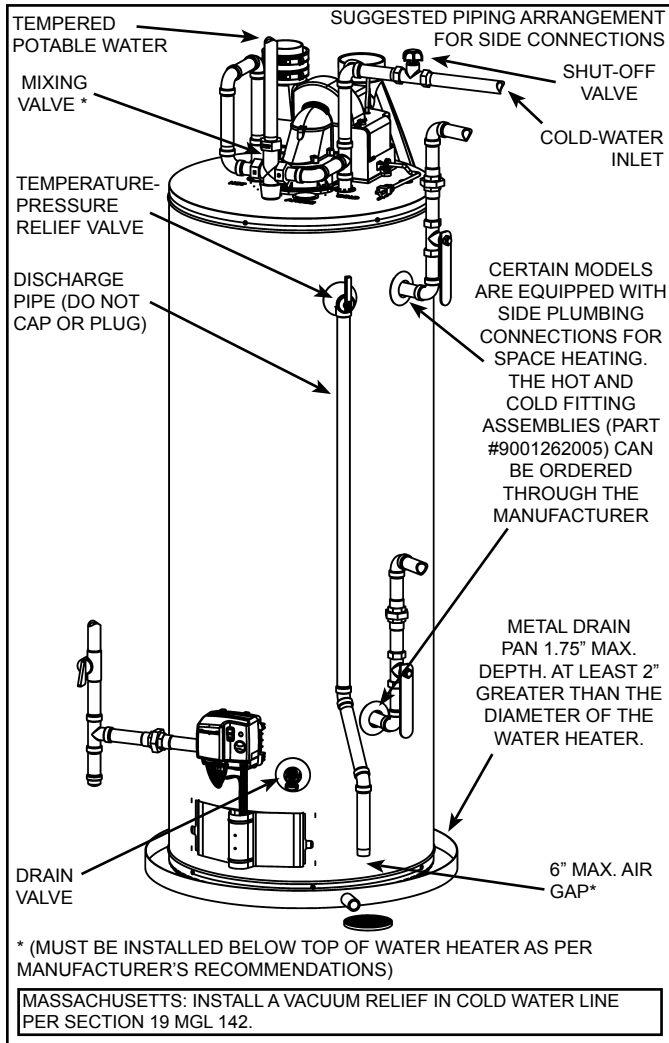
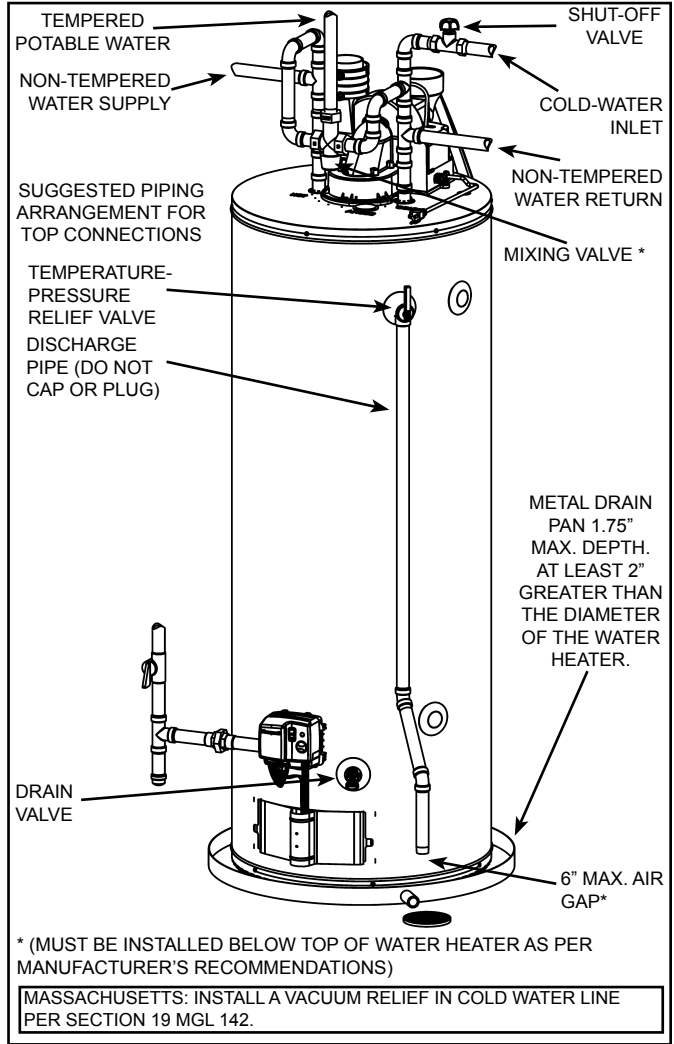

Figure 7.
Figure 8.
Models equipped with Combo Heating capabilities have the two side plumbing taps plugged (item 7 and item 10 in Figure 1 and see also Figure 7 & Figure 8). If the heater is to be installed in a Combo Heating application, these plugs must be removed.